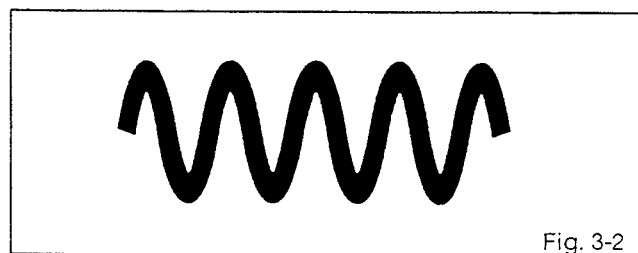

Fig. 3-2
3. Adjust L6604 until the waveform becomes as shown in Fig. 3-2.